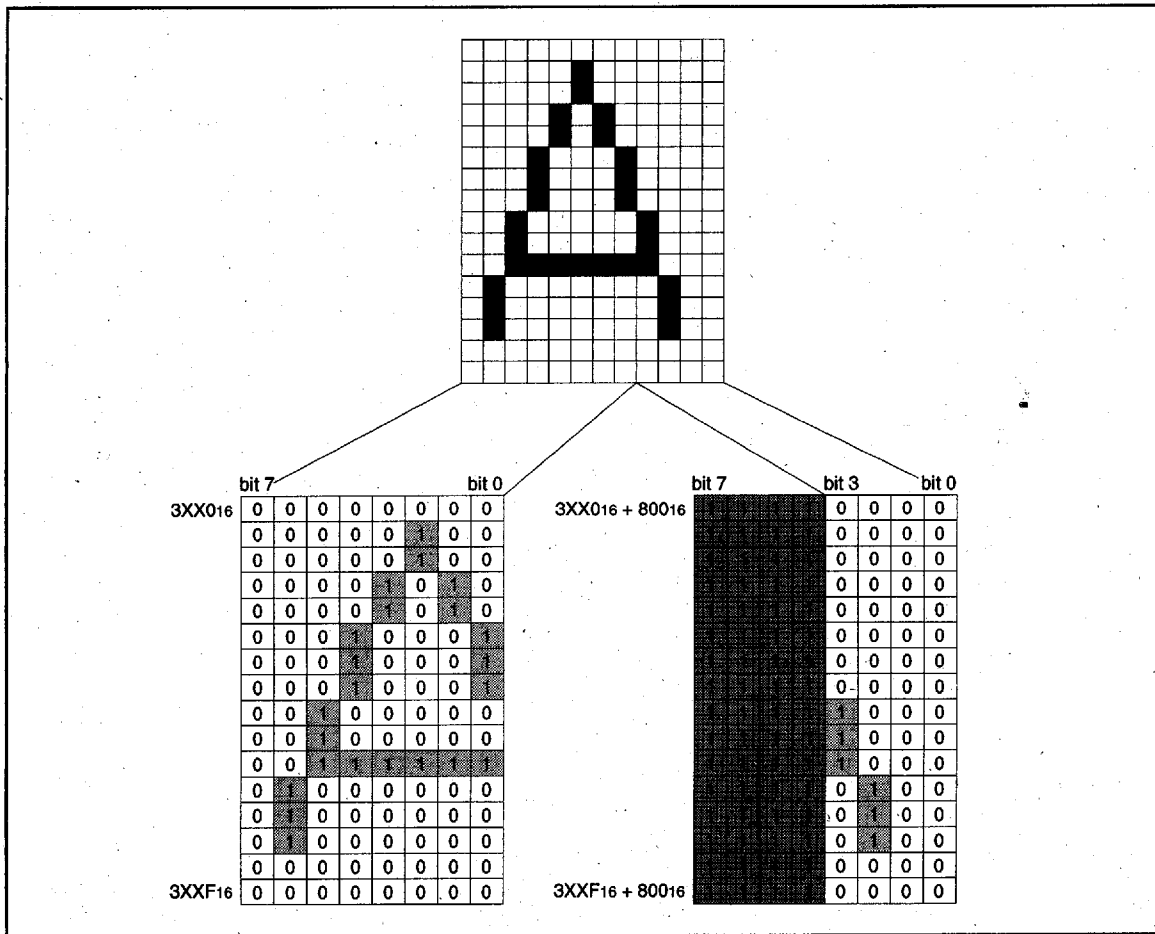

Fig. 30 Display character stored area
The CRT display ROM space is broadly divided into two areas. The [vertical 16 dots] × [horizontal (left side) 8 dots] data of display characters are stored in addresses 3000₁₆ to 37FF₁₆; the [vertical 16 dots] × [horizontal (right side) 4 dots] data of display characters are stored in addresses 3800₁₆ to 3FFF₁₆ (refer to Figure 30). Note however that the four upper bits in the data to be written to addresses 3800₁₆ to 3FFF₁₆ must be set to "1" (by writing data F0₁₆ to FF₁₆).
When a character is to be displayed at the first character (leftmost) position in block 1, for example, it is necessary to write the character code to the seven low-order bits (bits 0 to 6) in address 2000₁₆ and the color register No. to the two low-order bits (bits 0 and 1) in address 2080₁₆. The color register No. to be written here is one of the four color registers in which the color to be displayed is set in advance. For details on color registers, refer to (5) Color Registers. The structure of the CRT display RAM is shown in Figure 30. Write the character patterns at Table 8 and 9, when M37102M8-XXXSP is mask-ordered.